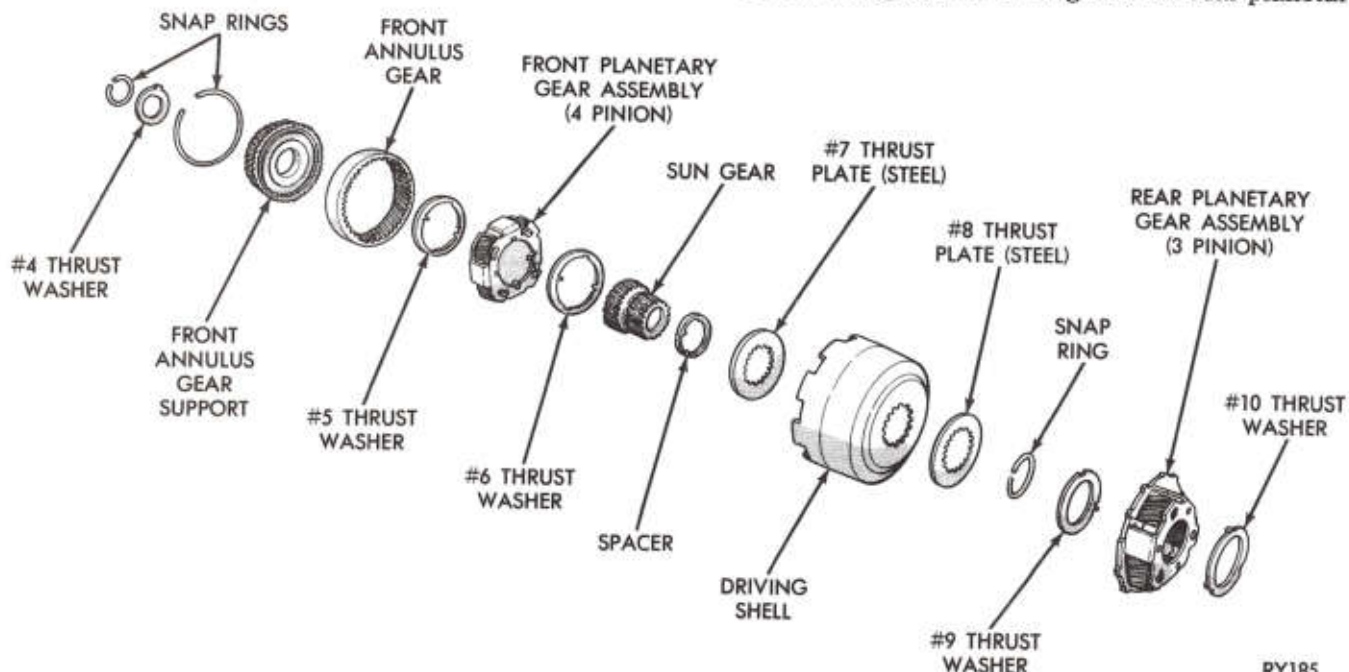

Fig. 33—Wide-Ratio Planetary Gear Train
Disassembly (Fig. 33)
assembly. Remove snap ring and #8 thrust plate from sun gear (rear side of driving shell). Slide sun gear out of driving shell, and remove spacer (Fig. 33), and #7 thrust plate from opposite end of sun gear, if necessary.
Refer to Figure 33 for parts reference.
(3) Insert output shaft in rear opening of rear annulus gear. Carefully work shaft through annulus gear support and planetary gear assembly. Make sure shaft splines are fully engaged in splines of annulus gear support.
(4) Install #7 thrust plate and spacer on wide-ratio transmissions (Fig. 33) on one end of sun gear. Insert sun gear through front side of driving shell, install #8 thrust plate and snap ring.
(5) Carefully slide driving shell and sun gear assembly on the output shaft, engaging sun gear teeth with rear planetary pinion teeth.
(6) Place front annulus gear support in the annulus gear and install snap ring.
(7) Position #5 thrust washer on front side of front planetary gear assembly. Position front planetary gear assembly in front annulus gear, place #4 thrust washer over planetary gear assembly hub and install snap ring. Position #6 thrust washer on rear side of planetary gear assembly.
(8) Carefully work front planetary and annulus gear assembly on output shaft, meshing planetary pinions with sun gear teeth.
(9) With all components properly positioned, install selective snap ring on front end of output shaft. Remeasure end play of the assembly. **The clearance can be adjusted by the use of various thickness snap rings. Snap rings are available in .042, .064, and .084 inch thickness.**